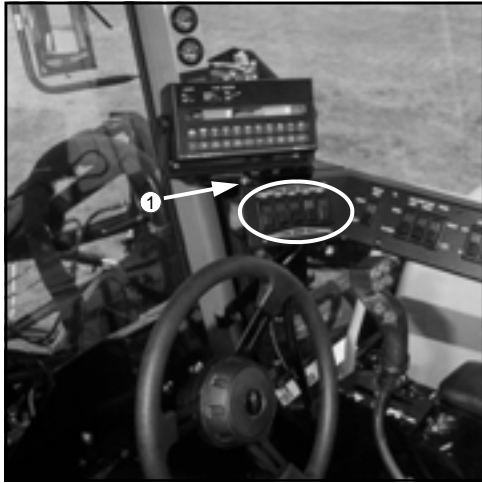

FIG 5.32
The electronic boom solution valves are controlled by a panel of switches mounted under the spraying system's monitor (fig. 5.32). When the switches are in the "UP" position they are on and when they are in the "DOWN" position they are off.
When the main solution switch is "ON" a "GREEN" indicator light located under the monitor will light up (fig. 5.32, item 1). When the light is not lit, the main solution switch is "OFF."